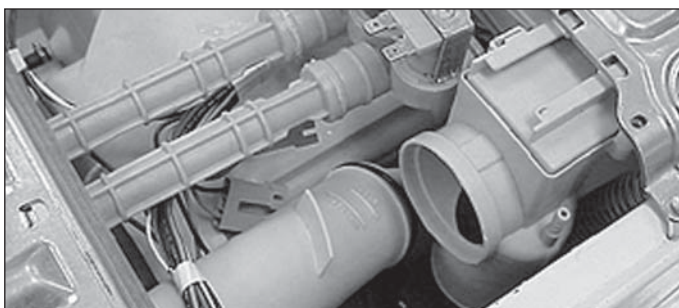

Figure 4-51.
3. Push the front of the tube down and forward toward the water inlet valve assembly until the tube clears the rear panel. (See Figure 4-51)